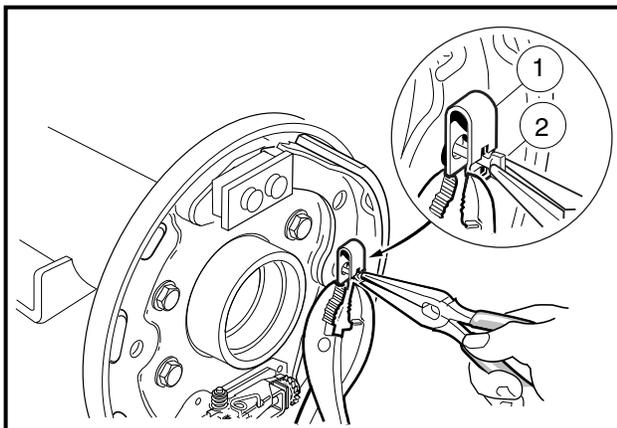

Figure 6-13 Install Trailing Shoe Retainer Clip
2. Install the shoe retainer clip, using pliers to compress the clip (1) while turning the retainer pin (2) into position (**Figure 6-13, Page 6-6**).